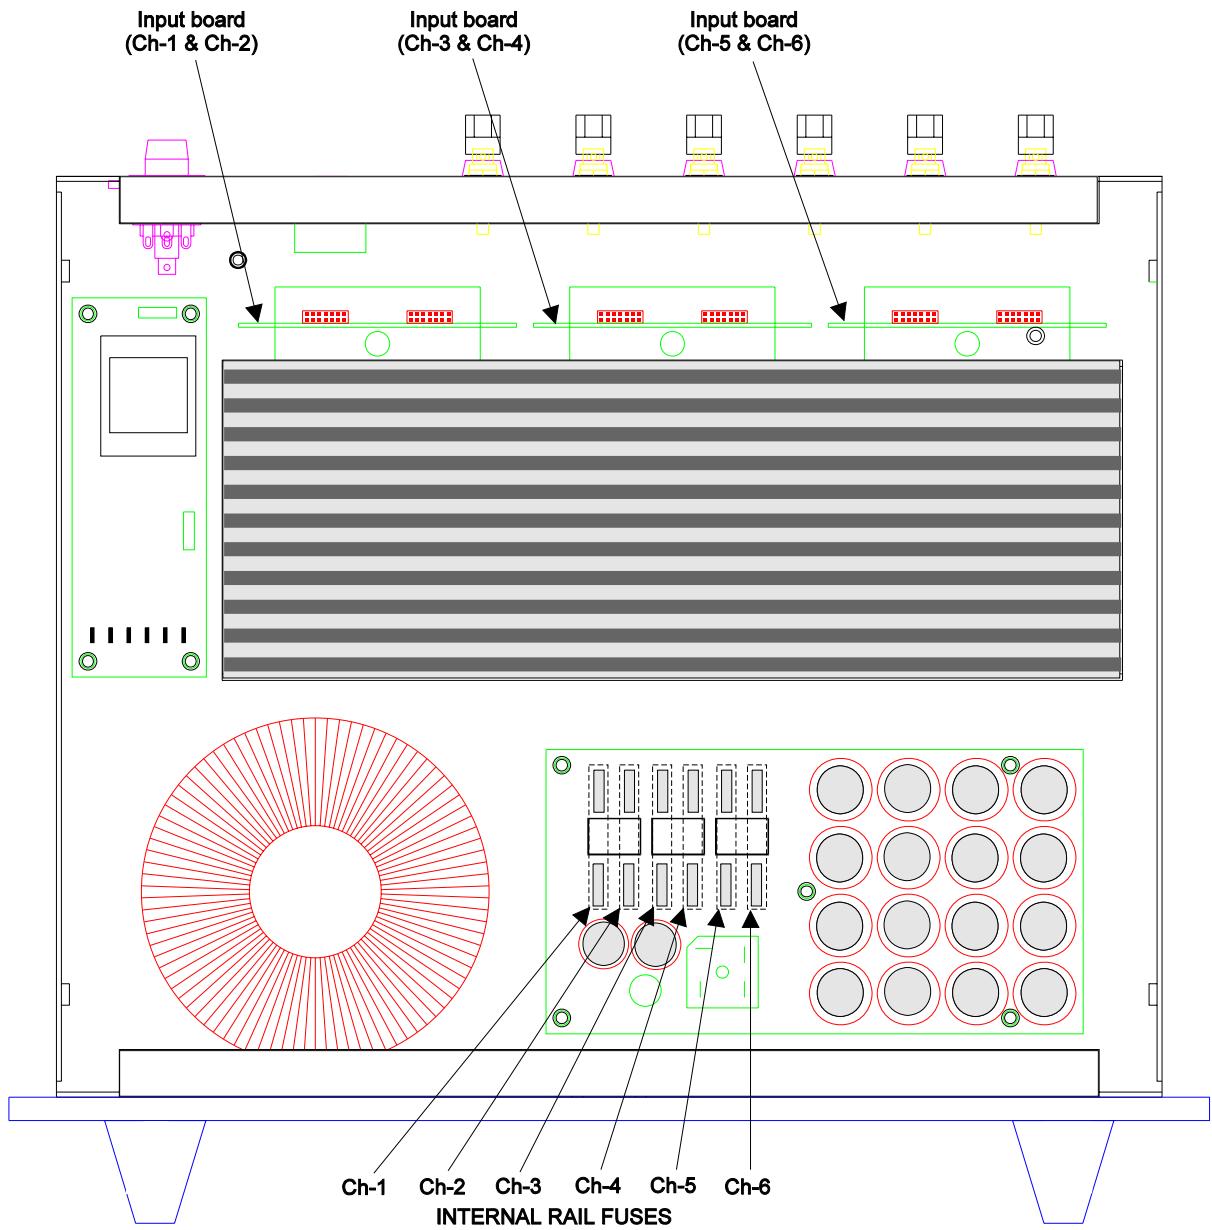

Fig.1 CAV-75 top view
- 3) Locate the input board(s) of channels to be switched. (see fig.1 page 7)
The Classé **CAV-75** is equipped with rail fuses to protect the output drivers (see fig.1, page 7) and mosfet fuses to protect the mosfets, which are used as pre-drivers for the output stage of the amplifier. In the event that a short circuit or other problems would occur at the output of the amplifier, either or both of these fuses may blow in an attempt to protect the amplifier.